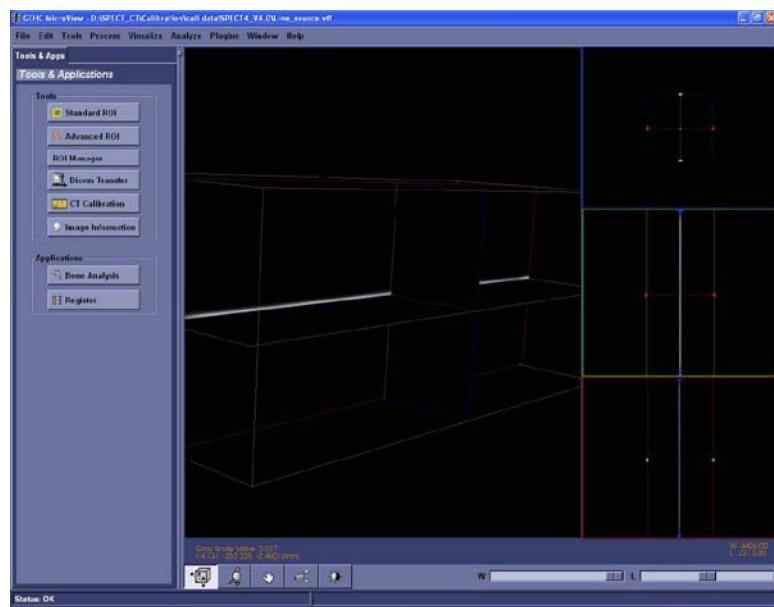

Figure 7-60
- 1.) After recon is completed, MicroView is used to load the recon image as shown in Figure 7-60.